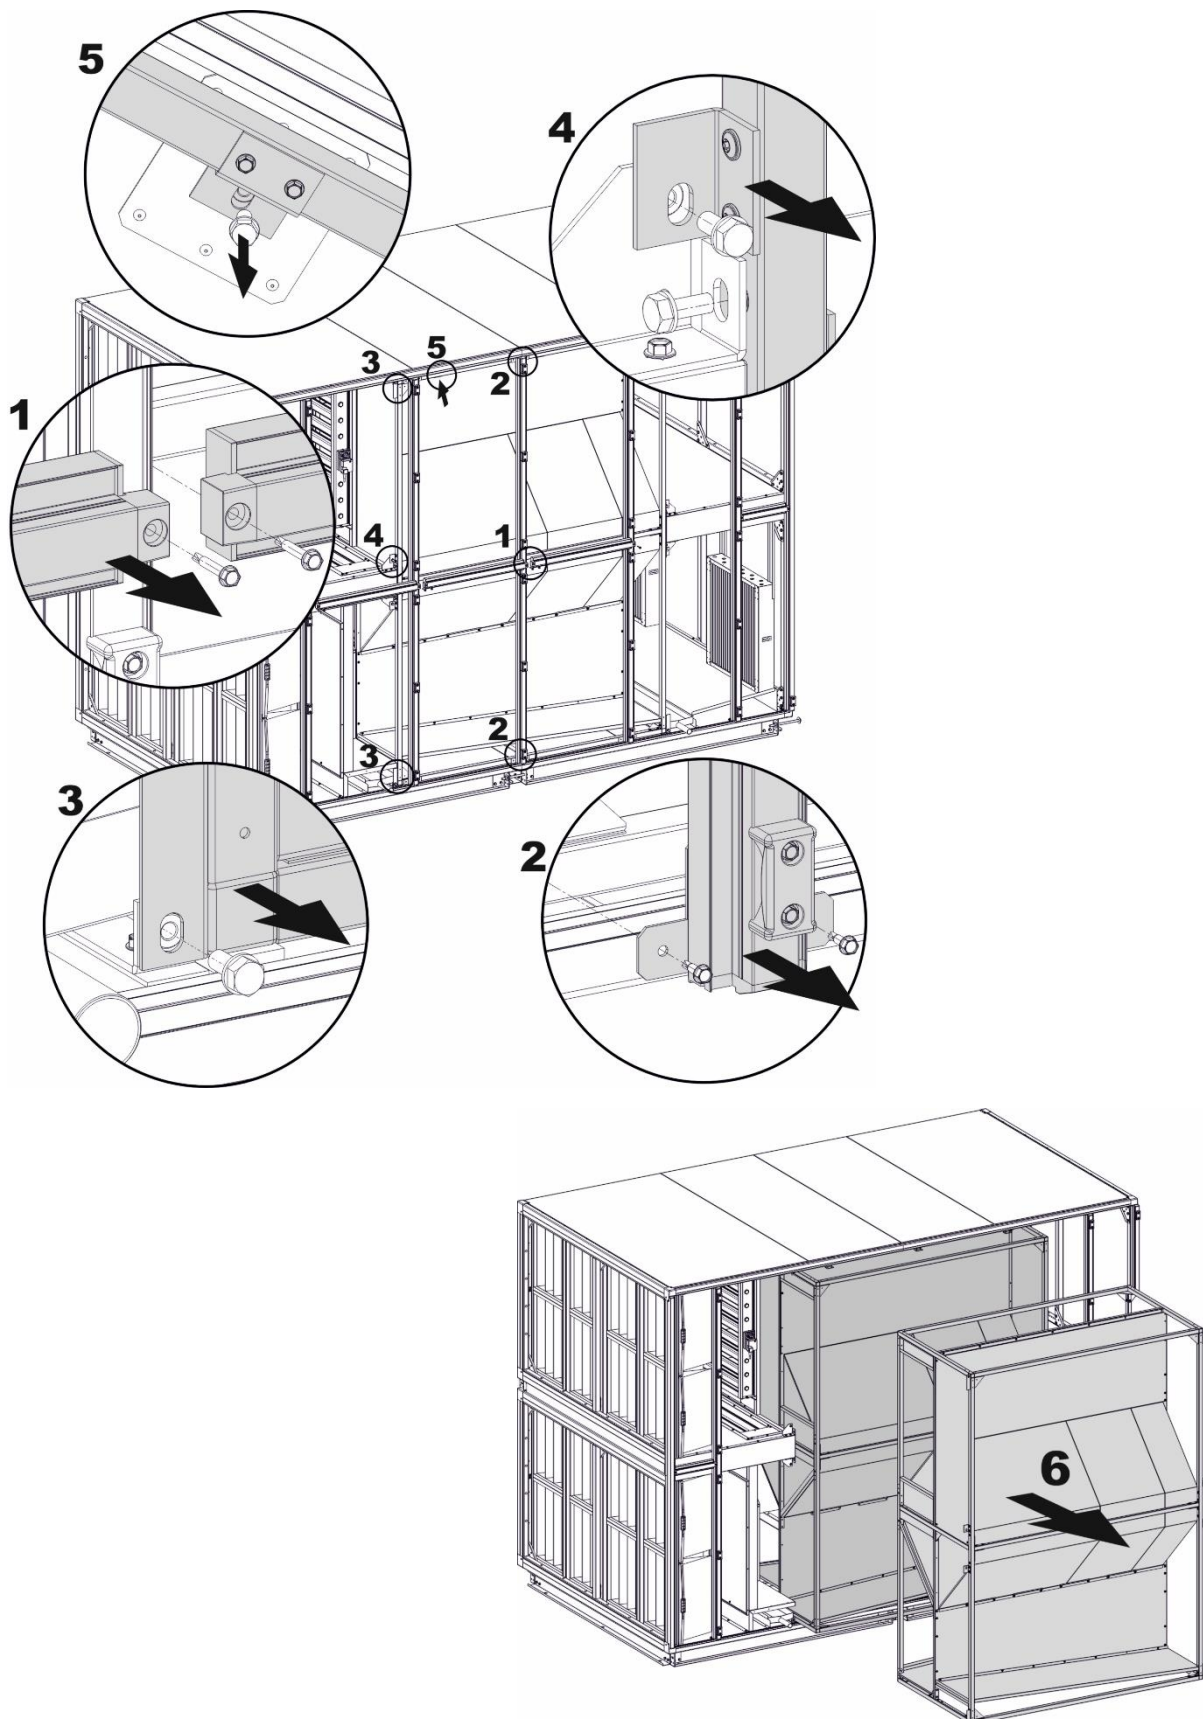

Fig.23. Disassembly of the counter-flow heat exchangers from the unit VS 75-650
- 1) Unscrew the screws fixing horizontal columns (pos.1. fig.23) and remove them
- 2) Unscrew the screws fixing vertical columns at the top and bottom (pos.2. fig.23) and remove them from the unit
- 3) Unscrew the bolts fixing the exchanger cage. Bolts are placed at the top and bottom (pos.3. fig.23) and the middle (pos. 4. fig.23) part of the AHU. In the units VS 75-230 is additional fixing to the ceiling (pos.5. fig.23).
- 4) Remove exchanger cage from AHU (pos.6. fig.23).